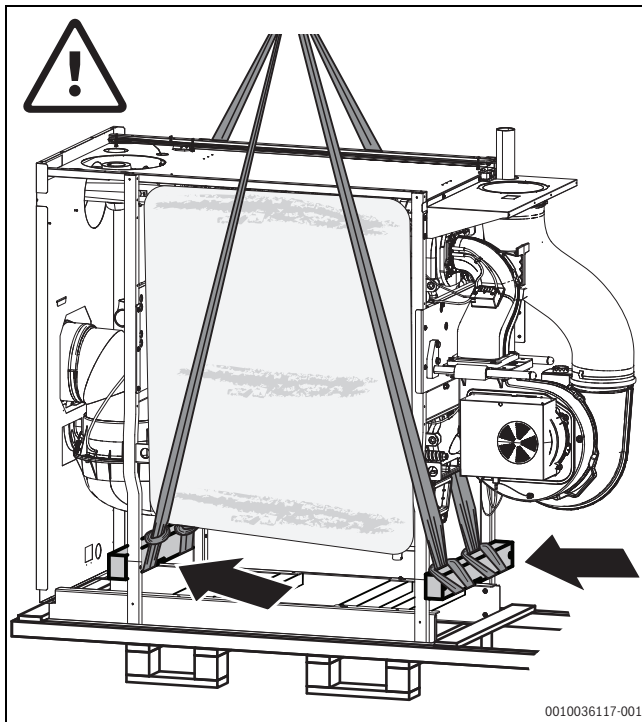

Fig. 12 Guide of crane lifting gear on the frame
- Secure the lifting gear (round slings) to the transport timber, guide along the boiler frame to the top and hook onto the crane hook (→Fig. 12).